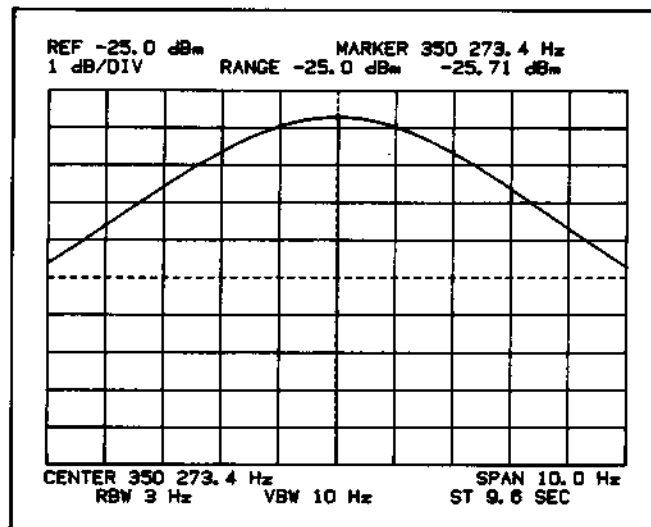

Figure 5-26. IF Adjustment Display #2
- s. Repeat the previous two steps until the A trace is symmetrical and equal to the amplitude of the B trace. (See Figure 5-26.)